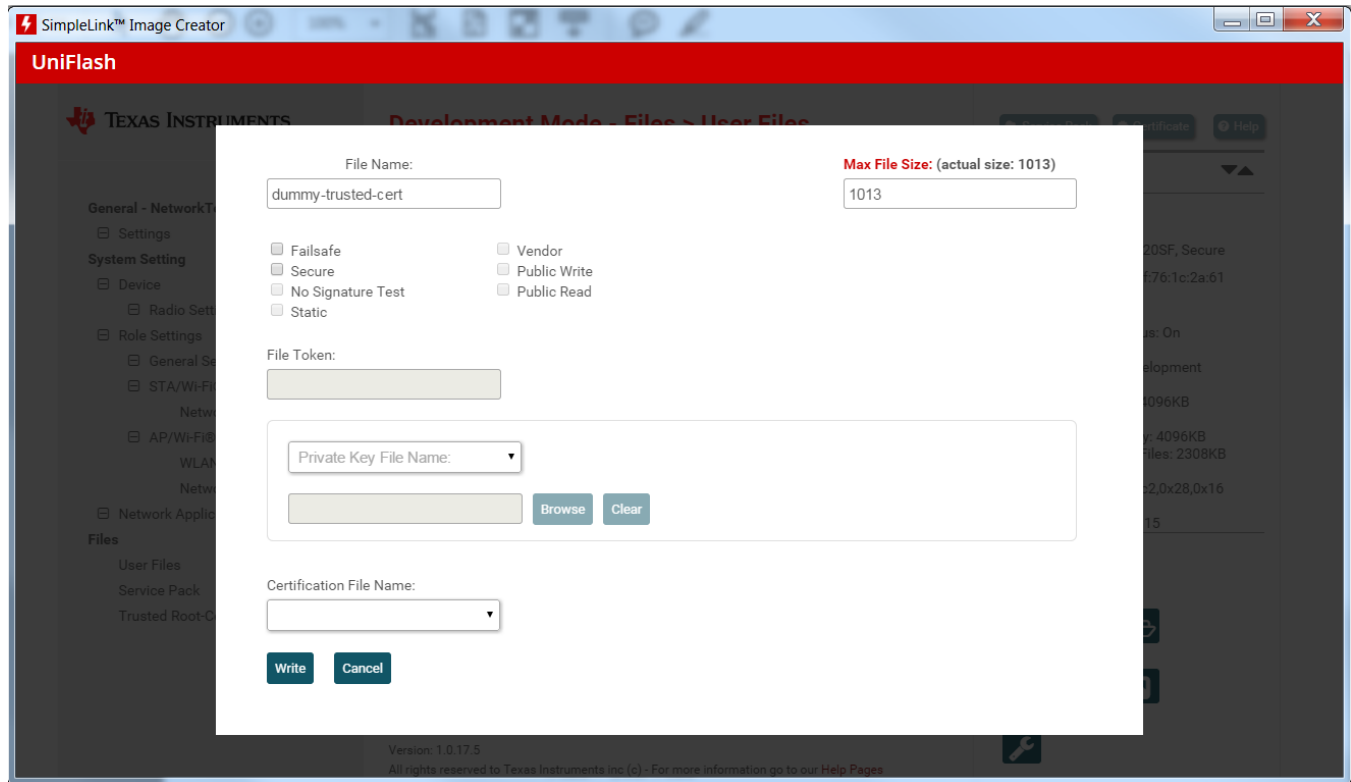

Figure 3-12. Select Certificate File
4. Select the following certificate files from `<sdk-installation>\tools\certificate-playground` and click Write, as shown in Figure 3-12. Note that operation should be repeated to each of certificate files (that compose a chain of trust):